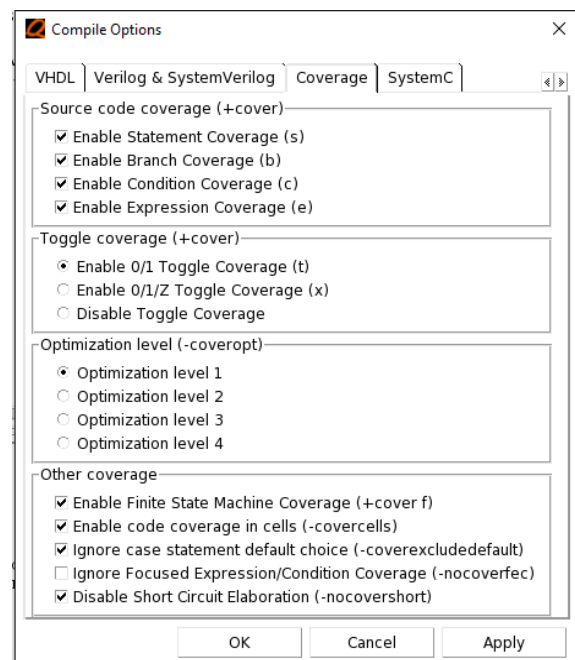

Figure 2: Coverage Compile Options
*Make sure the options are selected as shown in Figure 2 to the right.*